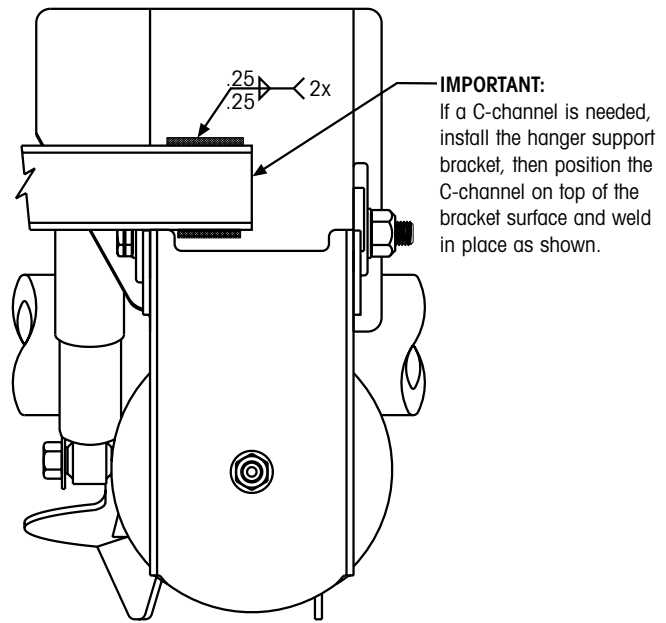

Figure 6. Installing the C-channel
1. Position the C-channel on top of the hanger support bracket (Figure 6 on page 6 and the assembly drawing).